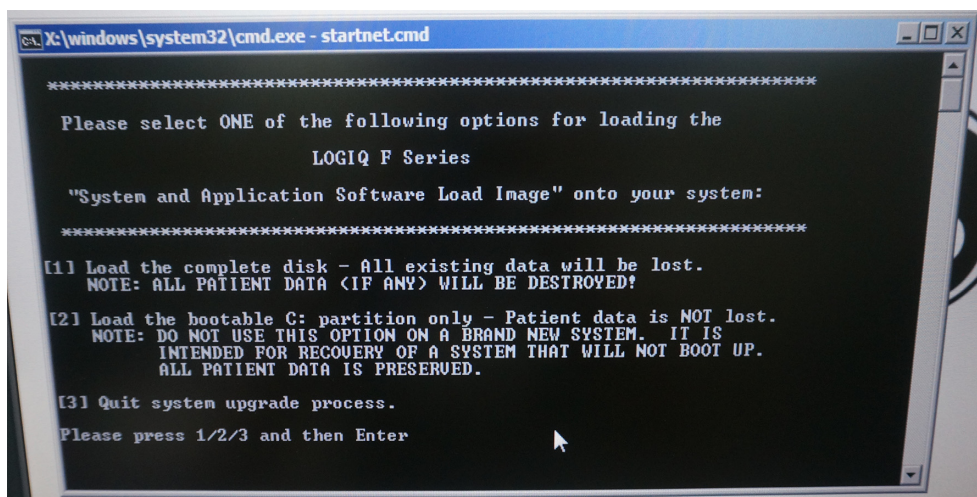

Figure 8-23 Selection for loading the system
- 7.) Select one of the options and then press Enter to continue. Select choice [1] to load the complete disk. Refer to Figure 8-23 on page 8-11 .